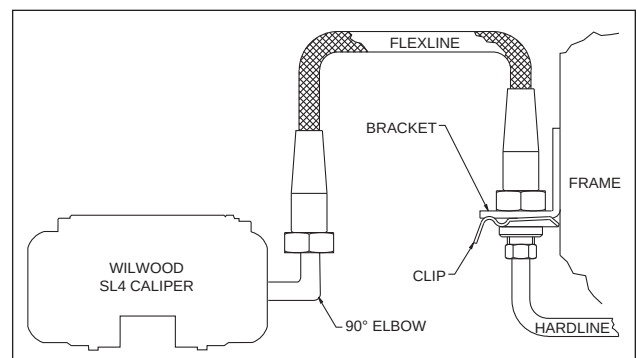

Figure 4. Brake Line Diagram
- Install Wilwood's optional stainless steel braided flexline hose kit, part number 220-8177 for C-5, 220-9101 for C-6 (NOT included in kit), see Figure 4. **NOTE:** OEM rubber brake hoses generally cannot be adapted to Wilwood calipers. The caliper inlet fitting is a 1/8-27 NPT. The preferred method is to use steel adapter fittings at the caliper, either straight, 45 or 90 degree and enough steel braided line to allow for full suspension travel and turning radius, lock to lock. **Carefully route lines to prevent contact with moving suspension, brake or wheel components.** Wilwood hose kits are designed for use in many different vehicle applications and it is the installer's responsibility to properly route and ensure adequate clearance and retention for brake hose components.